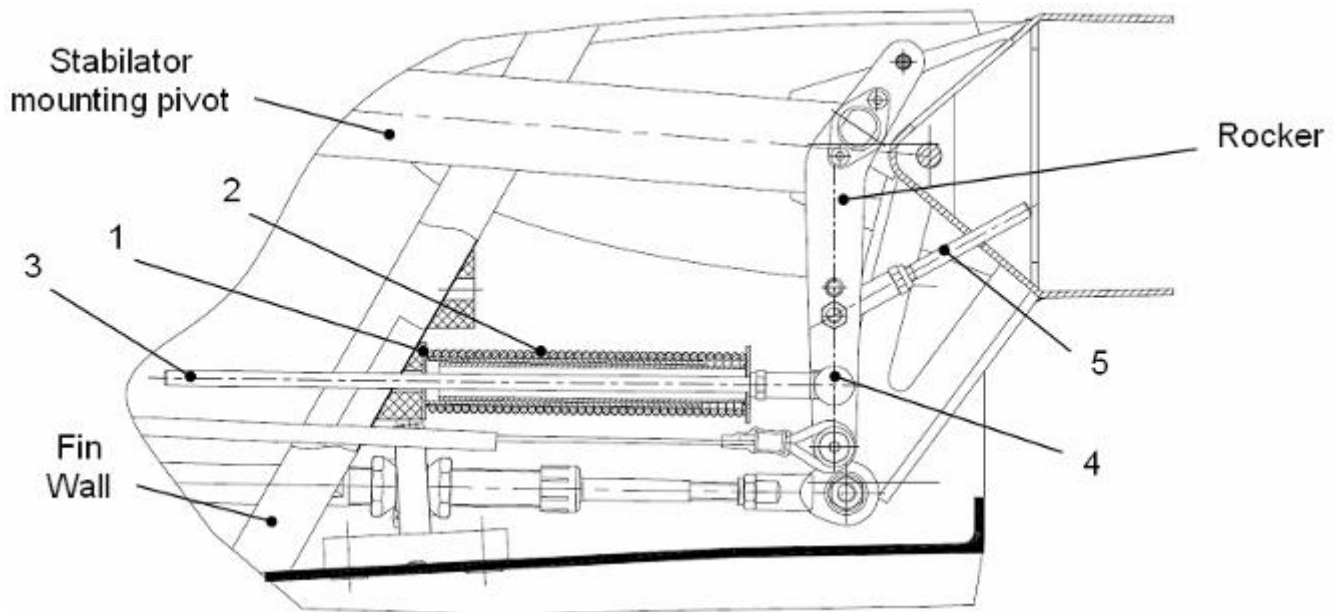

Fig. 4-15
Installation of telescopic system with spring is shown on Fig. 4-15. To install the spring (2) with telescopic guide (1), compress the spring and hold it in compressed state using safety wire. Carefully grease the outside of both telescopic tubes and the flanges, where the spring will have contact. This is to ensure smooth operation of the telescopic guide itself and of the spring guided by it, when installed. Insert the telescopic tubes to the pre-tensioned spring. Lubricate the rod (3) and insert it to the telescopic guide. Before installation of telescopic system take care that rod (5) was lubricated and inserted to hole in the Stabilator mounting pivot.
Snap the Angle Ball Joint (4), Fig. 4-15 to the Ball Head attached to the Rocker and secure the ball head with the safety pin.